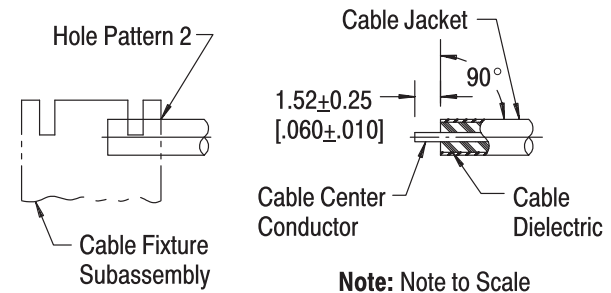

Figure 3
3. Pry the jacket and dielectric from the cable to expose the center conductor. Make sure that the center conductor meets the dimension shown in Figure 3.